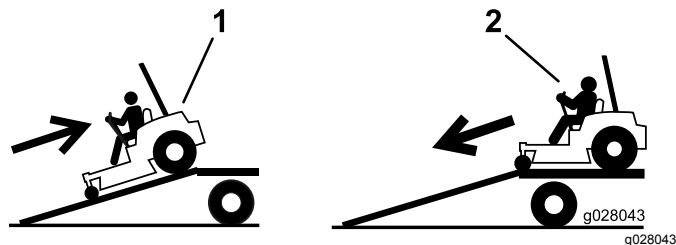

Figure 37
4. Back the machine up the ramp (Figure 37).
2. Drive the machine forward down the ramp (Figure 37).